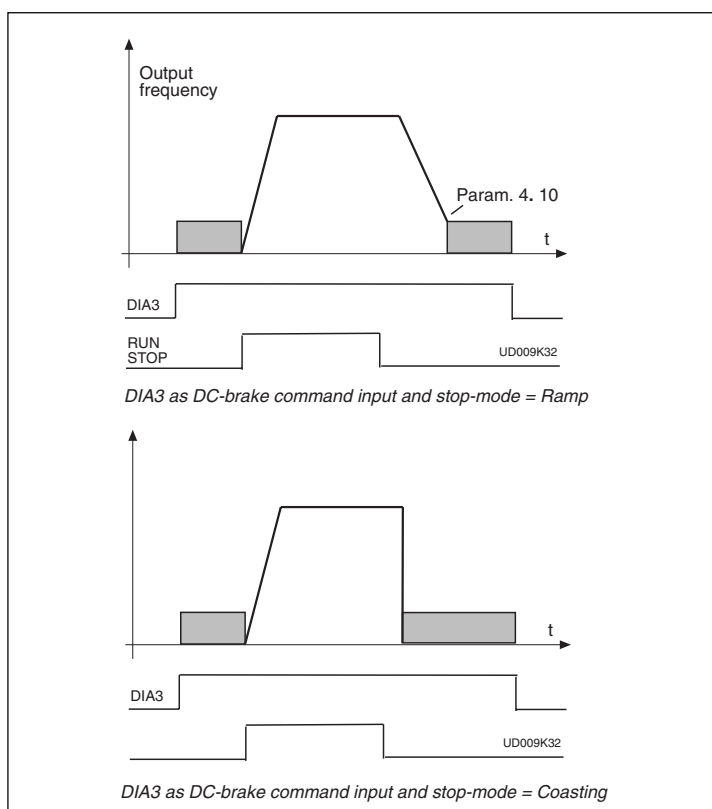

Figure 6-1 DIA3 as DC-brake command input:
- 9: DC-braking command contact closed = In the stop mode, the DC-braking operates until the contact is opened, see figure 6-1. Dc-brake current is set with parameter 4. 8.
| 9: DC-braking        | contact closed  | = In the stop mode, the DC-braking operates until the contact is opened, see figure 6-1. DC-brake current is set with parameter 4. 8. |